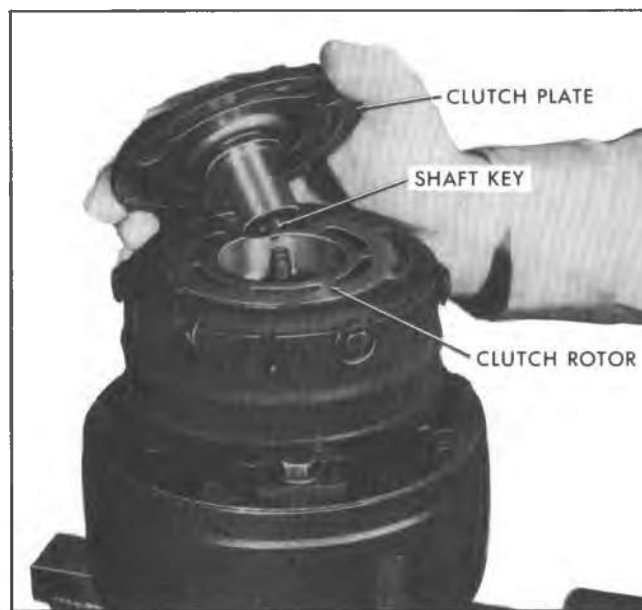

Fig. 71--Installing Shaft Key
1. Install shaft key into hub key groove (Fig. 71). Allow key to project approximately $3/16$ " out of keyway. Shaft key is curved slightly to provide an interference fit in shaft key groove, to permit key projection without falling out.